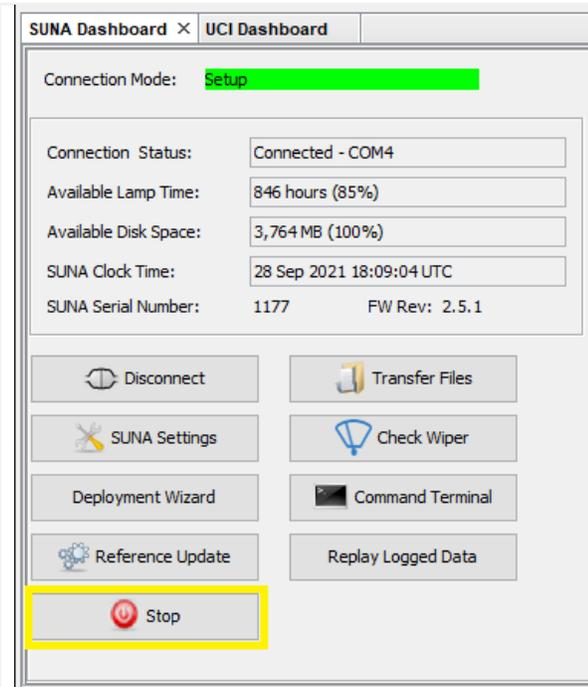

Figure 39. After 1 Minute, Click Stop
**STEP 3** | After 1 minute, click "Stop" (Figure 39).